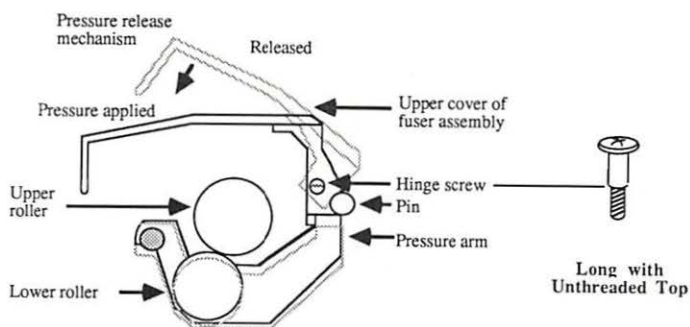

FIGURE 2-41
6. Replace the green cover and its two short black hinge-screws (see Figure 2-41). Check for free motion of the cover and loosen screws if necessary.